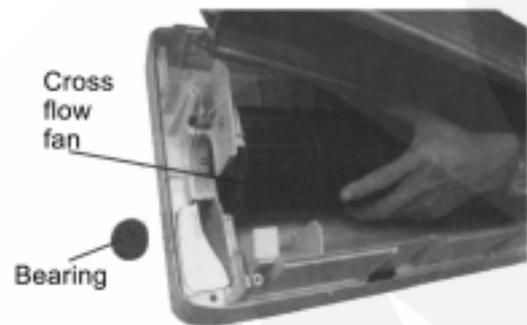

Fig 11
3. Take out the cross flow fan.(Fig 11)